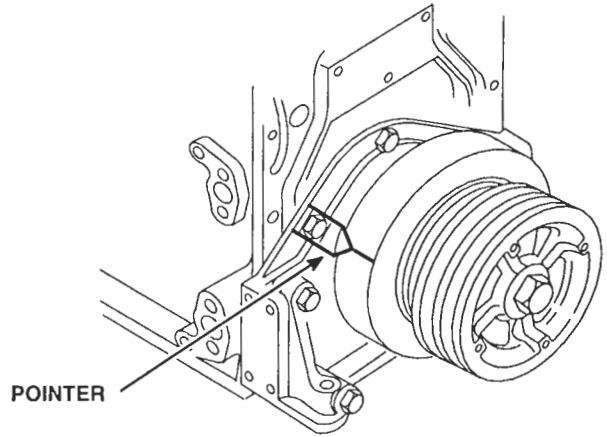

Figure 3. Pointer Installation for Marking Top-Dead-Center
8. Attach a suitable pointer to the crankshaft front cover or engine front end plate (Figure 3.) The pointer should extend over the vibration damper (or crankshaft pulley).